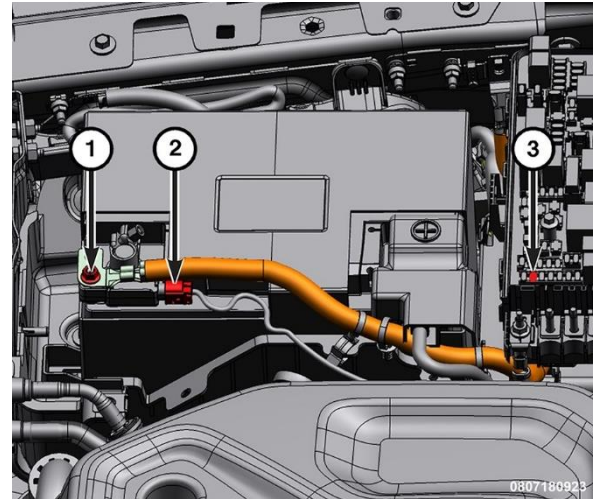

Figure 40 – Negative Battery Cable, Fuse F09 and IBS Connector
100. Remove the cover, connect the negative battery cable to the IBS and tighten the fastener (1) to 10N·m (7 ft. lbs.) (Figure 40).
101. Install the F09 (5 amp) IDCM fuse (3) in the Power Distribution Center (PDC) (Figure 40).
102. Connect the IBS harness connector (2) (Figure 40).